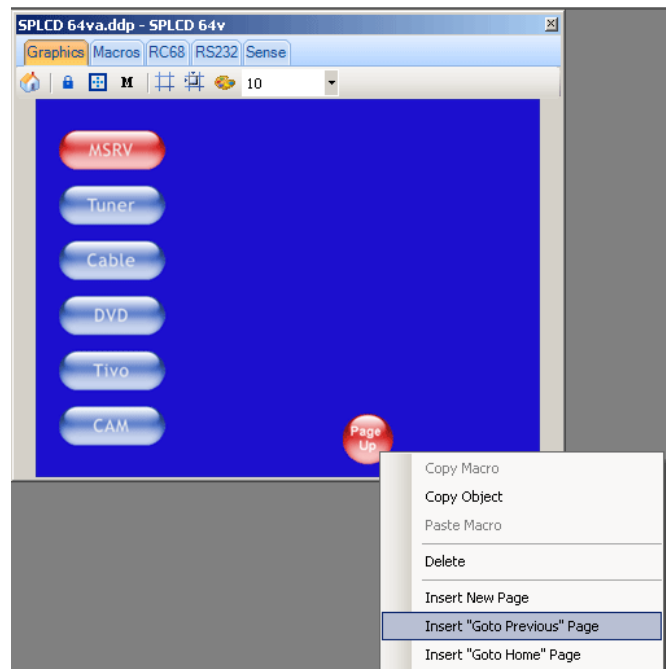

Figure 26 – Go To Previous Page
7. Right-click on the button from **Step 6** and select **Insert Go To Previous Page** from the **pop-up**. (**Figure 26**) While programming in **Universal Dragon**, once configured as a '**Go To**' **Button**, the button can double clicked to navigate as configured, i.e. **Page Up**.